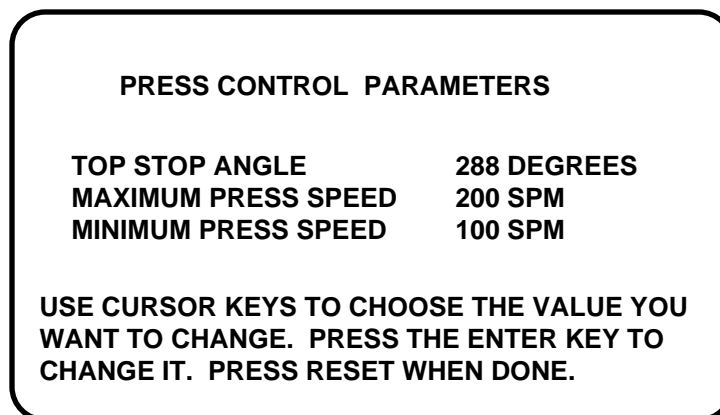

Figure 5-24. Press speed parameters
2. You will see the display shown above at Figure 5-24. Notice the value for Top Stop Angle is highlighted. Select "Max. press speed".